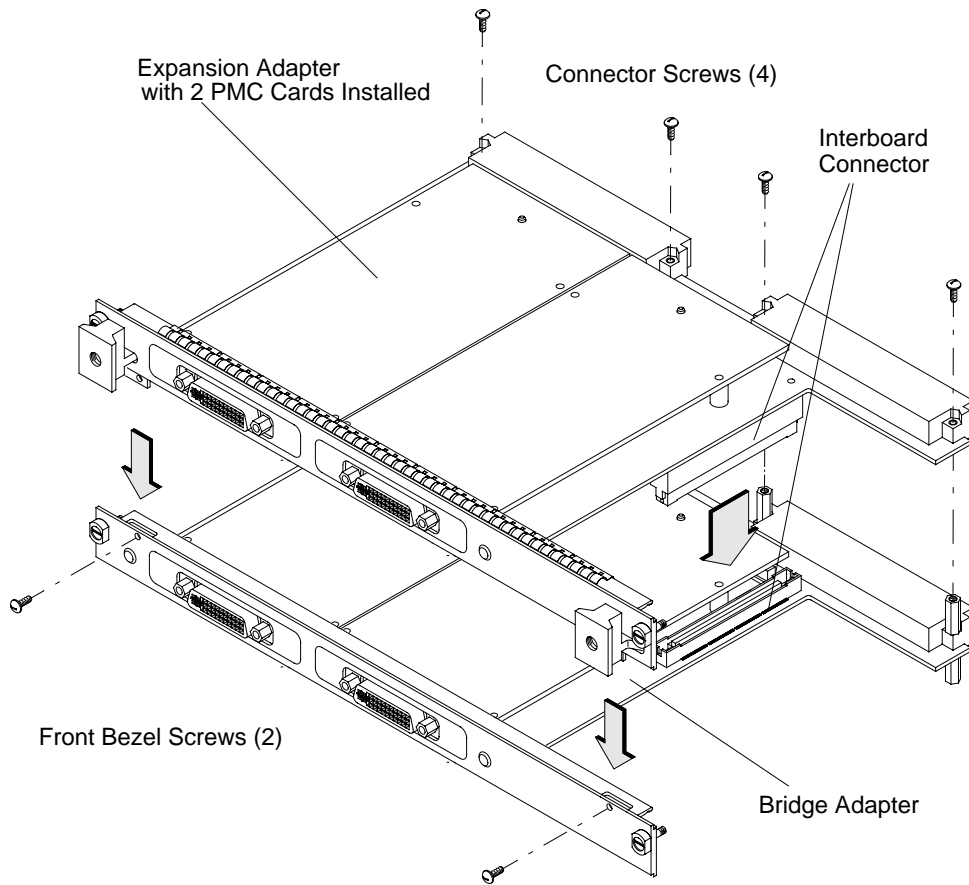

Figure 3 Installing the Expansion Adapter onto the Bridge Adapter
- 9 If you are using both the PMC bridge and expansion adapters, connect them together, making sure that the connector and bezels are properly aligned, as shown in Figure 3. Ensure that the interboard connector seats properly by applying pressure to the top of the expansion board and to the bottom of the bridge board at the interboard connector. There are two screws that secure the front bezel and four screws to secure the backplane connectors.